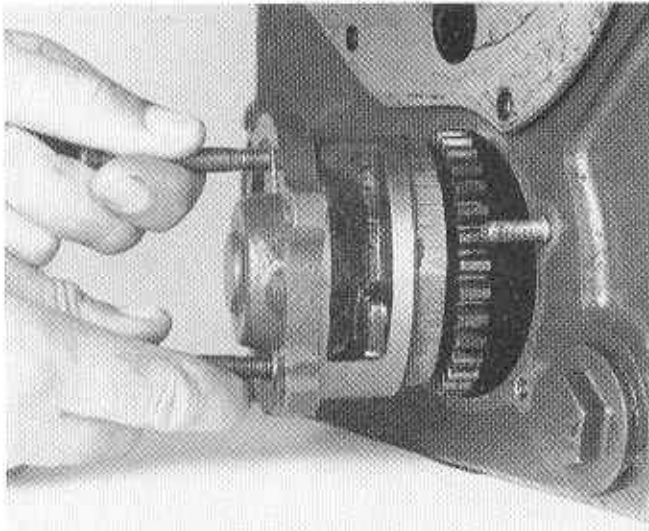

Figure 2.2 Removal of Rotary Oil Pump
Removal (Figure 2.2)
- (1) Drain the oil from the sump by removing the oil drain plug from the bottom front of the crankcase to the oil pump.
- (2) Remove the three 5/16 in. BSF bolts and washers and the 1/4 in. BSF nut and washer retaining the pump.
- (3) Screw two 5/16 in. BSF bolts into the holes provided in the pump and exert an even pull on both bolts as shown in Figure 2.2.